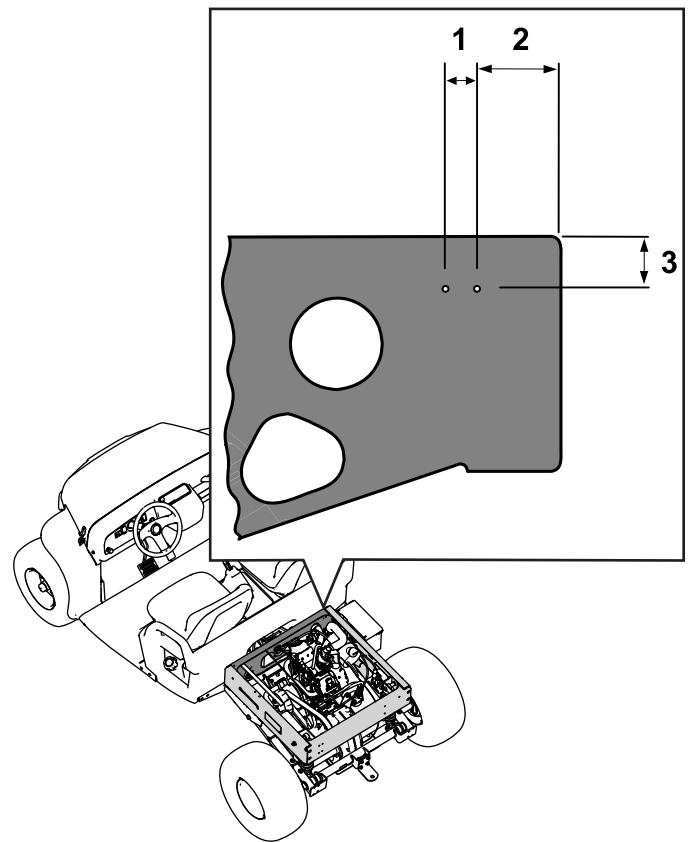

Figure 2
1. Measure and drill 2 holes (1/8 inch) into the right side of the rear-frame front plate. Refer to Figure 2 for the appropriate hole location on the front plate.